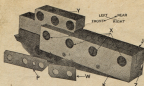

FIGURE 2.
(J and K) to the rear TYPE BLOCK (O): these are all at the left end, three near the top and two near the bottom—the lower right one and the upper right two are reached through holes (H). Slide the TYPE BLOCKS (J and K) out toward the left. Remove the two POINT BLOCKS (P and W, Fig. 2). (Note their position when taking them off so that they will be replaced correctly; their corners are made to correspond with those of the TYPE BLOCKS.)
22. Remove the six short SCREWS (X) (4 are shown in Fig. 2, the other 2 are underneath) and the one long SCREW (Y) from the TYPE BLOCKS and take the TYPE BLOCKS (J and K) apart.
24. Be particularly careful to have the VENT PUSHER slot (Z, Fig. 2) in the TYPE BLOCK clean.
37. Take off the SHIELD (G), MATRIX CLAMP (T), and MATRIX (U). Take off the MOLD-BLADE STOP (L). Pull out the MOLD BLADE (M) taking care not to drop the VENT PUSHER which is drawn out with it.
38. Clean thoroughly the end of slot (Z, Fig. 2) for the MOLD BLADE and VENT PUSHER.
40. Put on the MOLD-BLADE STOP (L) (marked "L" for low BLADE) and tighten its SCREWS.